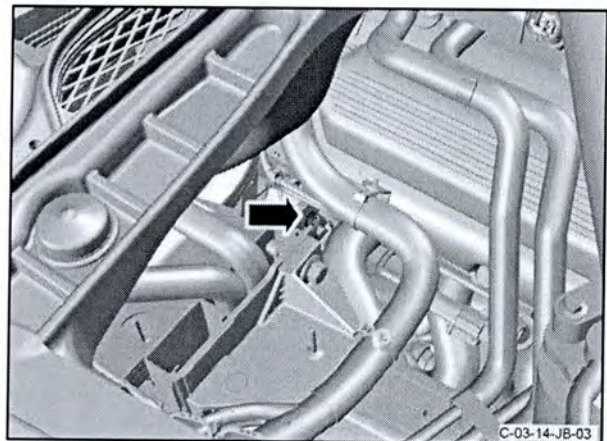

Figure 28
- 52. Remove the nut that attaches the heat shield for the front floor to the body (refer to Figure 28).